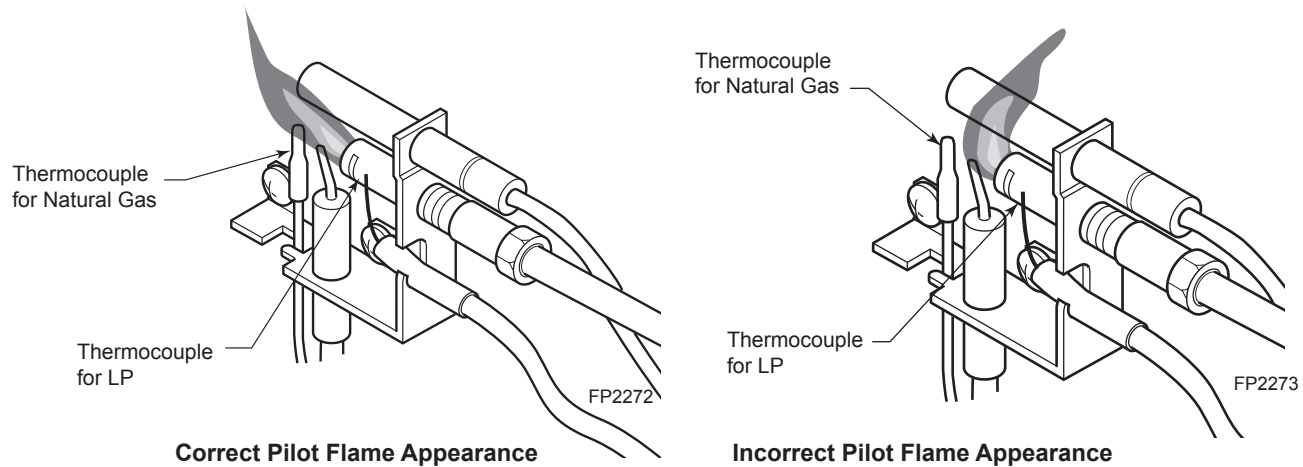

Figure 23 - Millivolt Control Pilot Flame Appearance
The pilot flame must always be present when the heater is in operation. It should just touch the top of the thermocouple tip for natural. Refer to Figures 23 & 24 for correct pilot flame.
If the pilot flame does not touch the thermocouple, then the main burner cannot function reliably. Refer to Figures 23 & 24 for incorrect shape of pilot flame.
4. Refer to Page 22, Figure 23 for the location of the piezo ignitor and control knob. Push in gas control knob slightly and turn control knob clockwise to the OFF position.